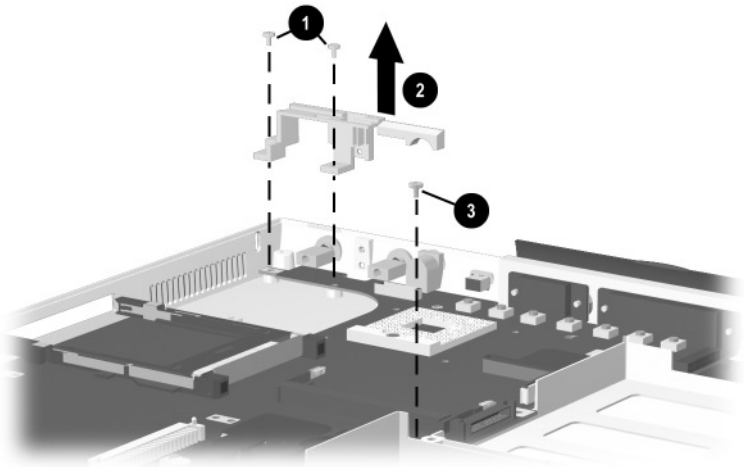

Figure 5-27. Removing the Left Display Support and System Board Screw
6. Remove the two black M2 × 9 screws ❶ that secure the left display support to the base enclosure (Figure 5-27).
7. Remove the left display support ❷.